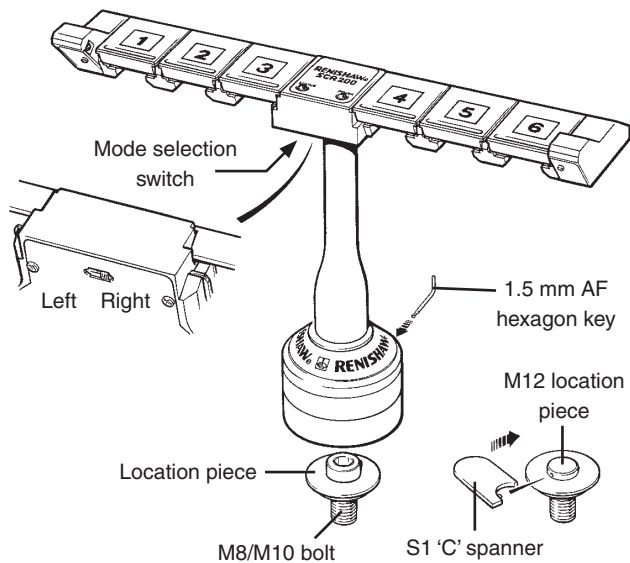

Figure 14 - Mounting the SCR200 rack on the CMM
- See figure 14.
- Move the mode selection slide switch (see figure 14): -